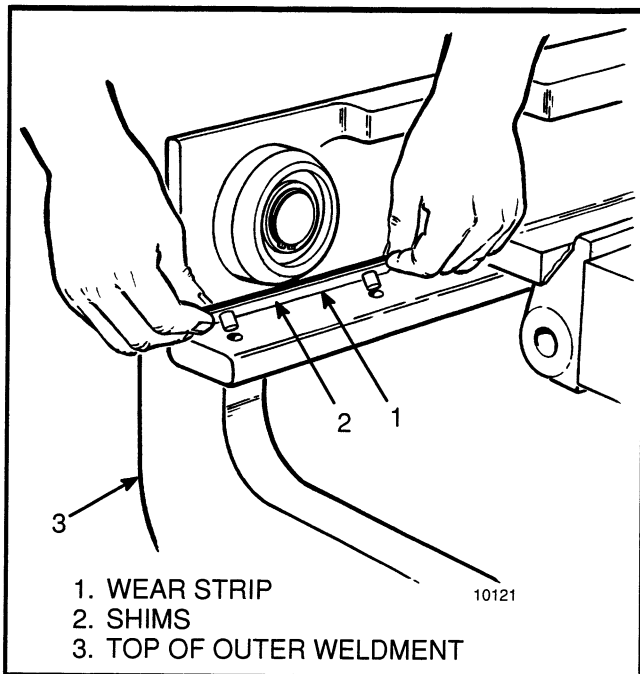

FIGURE 6. STRIP BEARINGS
8. Remove the strip bearings from the outer weldment. See FIGURE 6. Make a note of the shim arrangement during removal of the strip bearings.
2. Install the strip bearings and the shims on the outer weldment. Apply grease to the bearing and the bearing surface of the channels. See FIGURE 6.
2. Install the strip bearings and the shims on the outer weldment. See FIGURE 6. Apply grease to the bearings.